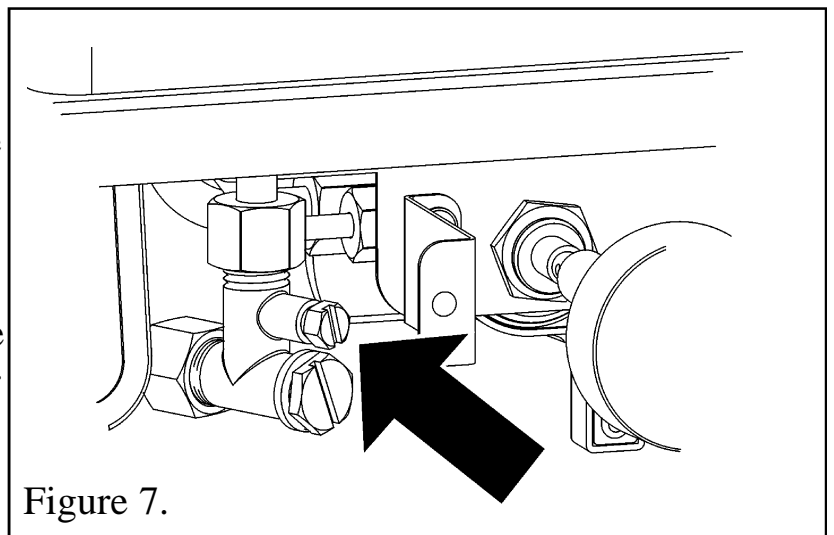

Figure 7.
1. Check the inlet pressure by fitting a pressure gauge at the test point. The test point is on the inlet 'T' connector (See figure 7). Check the pressure with the appliance alight and set at